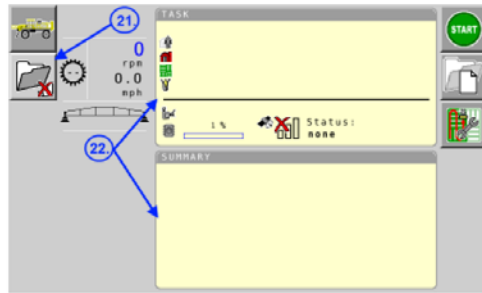

Figure 21.
21. Setup C1000 display. Select Task Controller (TC). {Figure 21}
22. Highlight and select a TC container by scrolling then pressing encoder (wheel) button on RH side of C1000 display. {Figure 21}